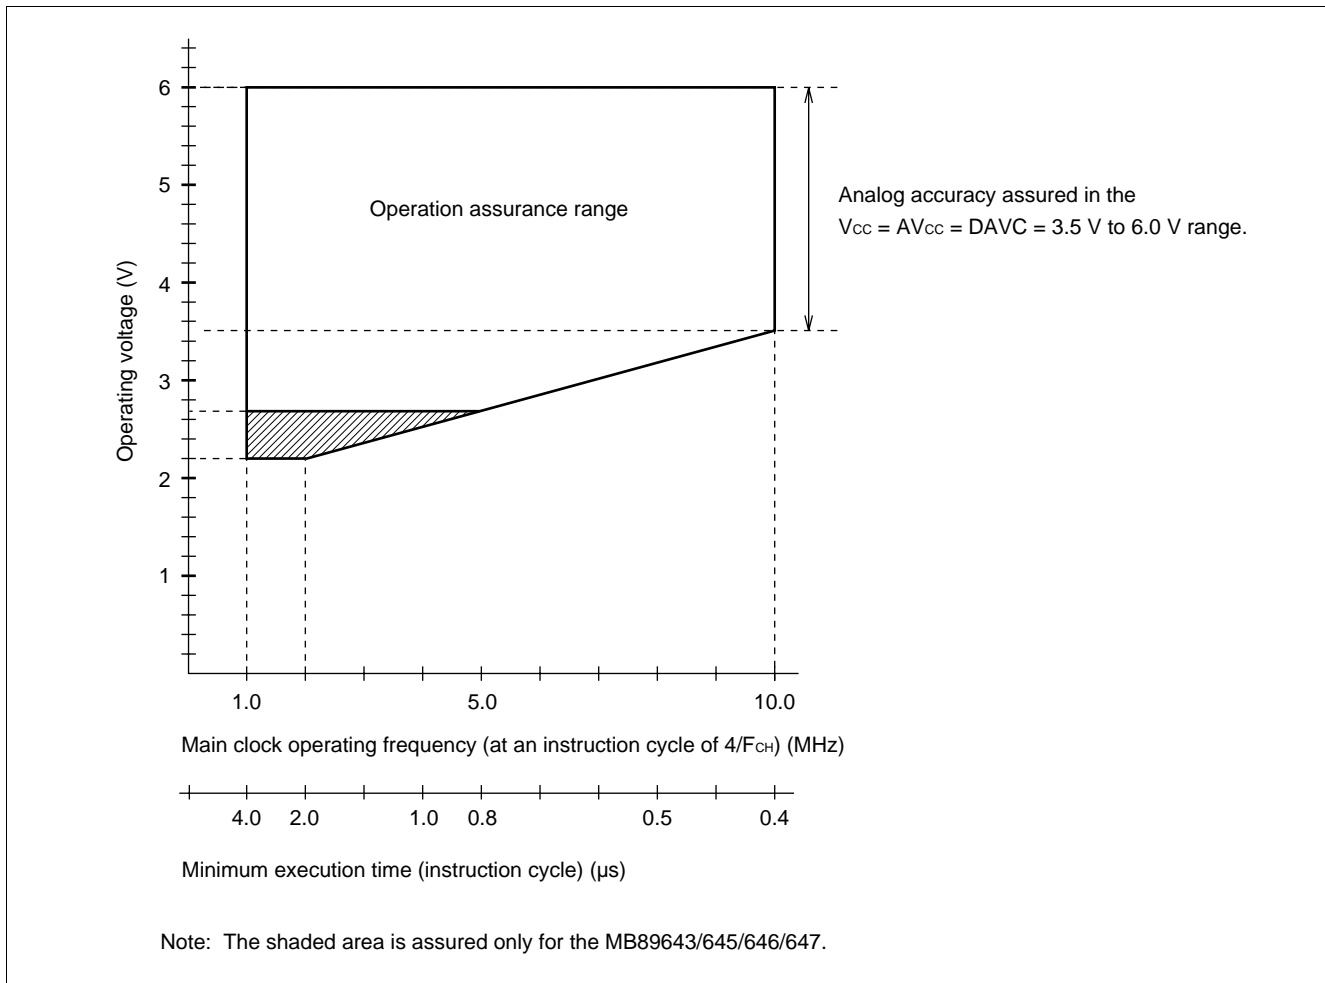

Figure 1 Operating Voltage vs. Main Clock Operating Frequency
* : These values vary with the operating frequency and analog assurance range. See Figure 1, "5. A/D Converter Electrical Characteristics," and "6. D/A Converter Electrical Characteristics."
Figure 1 indicates the operating frequency of the external oscillator at an instruction cycle of $4/F_{CH}$.